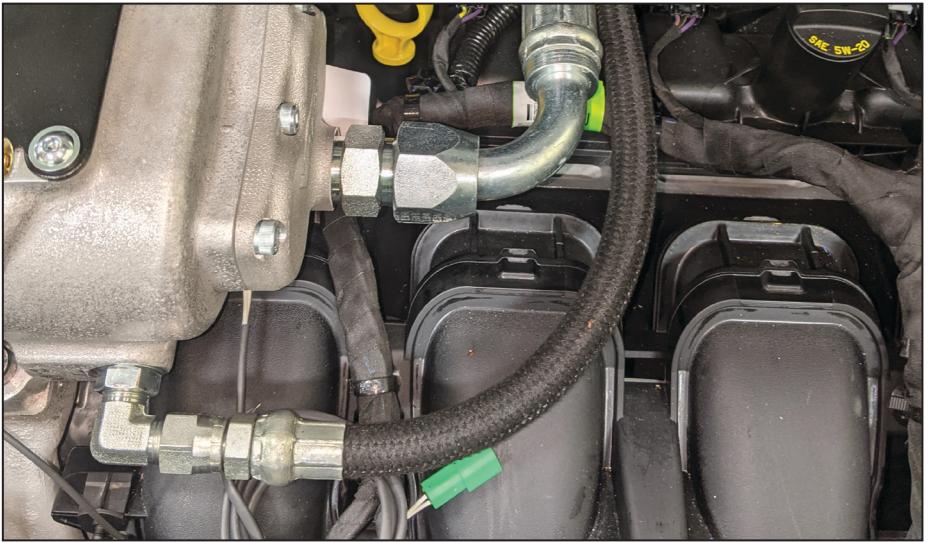

Figure 27 — Hose routing
- Connect the 90° end of the 3/4 in x 108 in hose to the discharge fitting on the compressor (Figure 27).
- Connect the straight fitting on the 3/8 in x 112 in hose to the oil return fitting on the compressor (Figure 27).